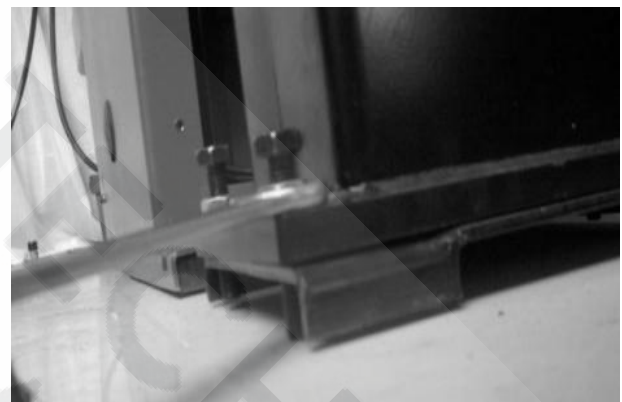

Fig 7-10
7.1.10 Loose the nut below the base and turn the screw clockwise until it against the ground and tight (fig7-10) and install the side panel and tool box removed in the 7.1.1. At this moment, the installation of the left assistant completed.